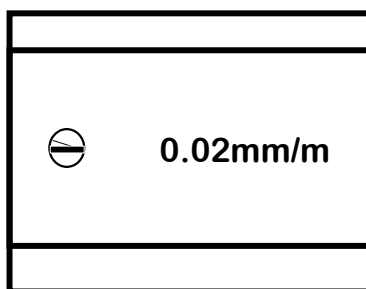

Fig.2
2. By adjusting the screw on the top of the level (Fig 2.) and the two locking nuts adjustment can be made back to zero. Only use very small adjustments as the bubble will react very quickly with small adjustment.